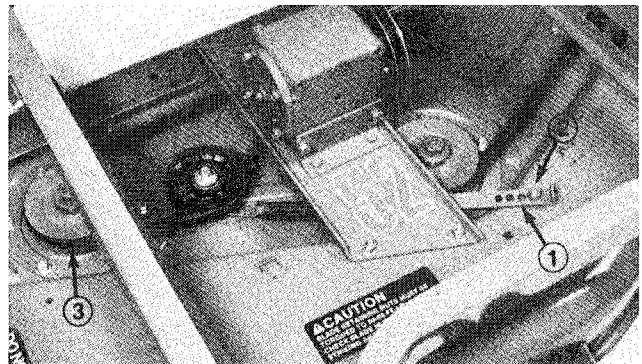

Figure 1
2. Remove nut securing spring anchor to capscrew on deck. Lift anchor off capscrew and allow belt to relax (Fig. 1).
3. Remove belt from right spindle pulley (Fig. 1).
9. Adjust belt tension by pulling spring anchor until 30–40 lb. of force is applied to spring. Slide spring anchor over capscrew in appropriate mounting hole and install nut (Fig. 1).